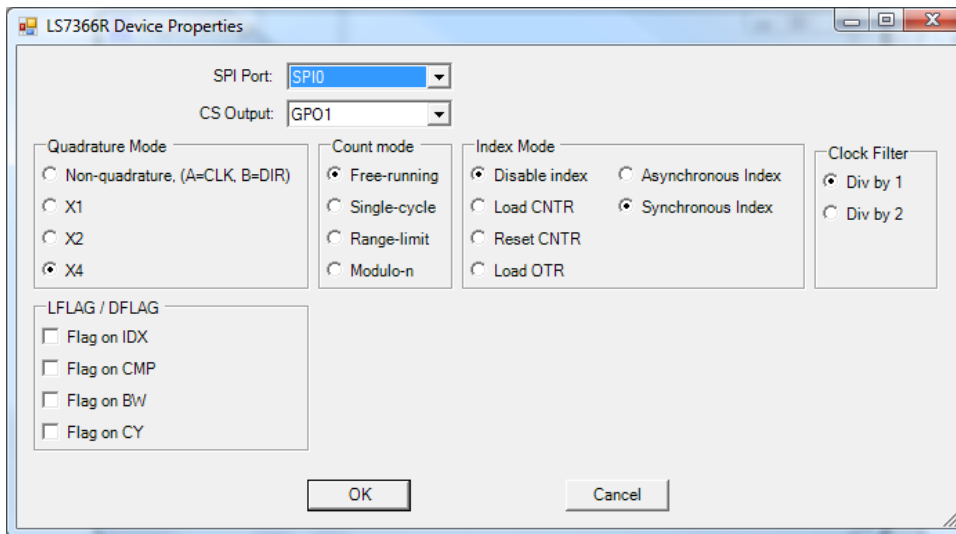

Figure 15-17
Select the SPI port from the drop down menu and select the general purpose output pin (GPO) that will serve as this device's chip select (CS). With these two devices selected, additional channel information will be available to configure. See Figure 15-17.